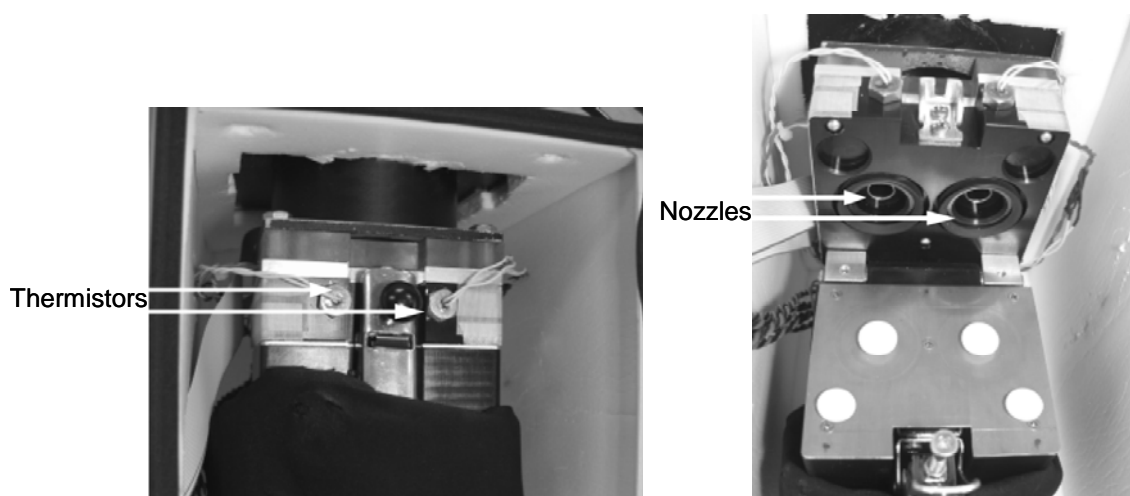

Figure 10-5. Air Inlet containing the Mass transducers, thermistors, and nozzles.
2. Open the door of the unit and pull the black insulating cover down from the top of the mass transducer assembly. Locate the thermistors (**Figure 10-5**, left).
6. Using a soapy water, alcohol or freon solution, clean the entire air inlet (shown at right in Figure 10-5). A lint-free cloth may be used to remove particulate matter from the insides of the walls.